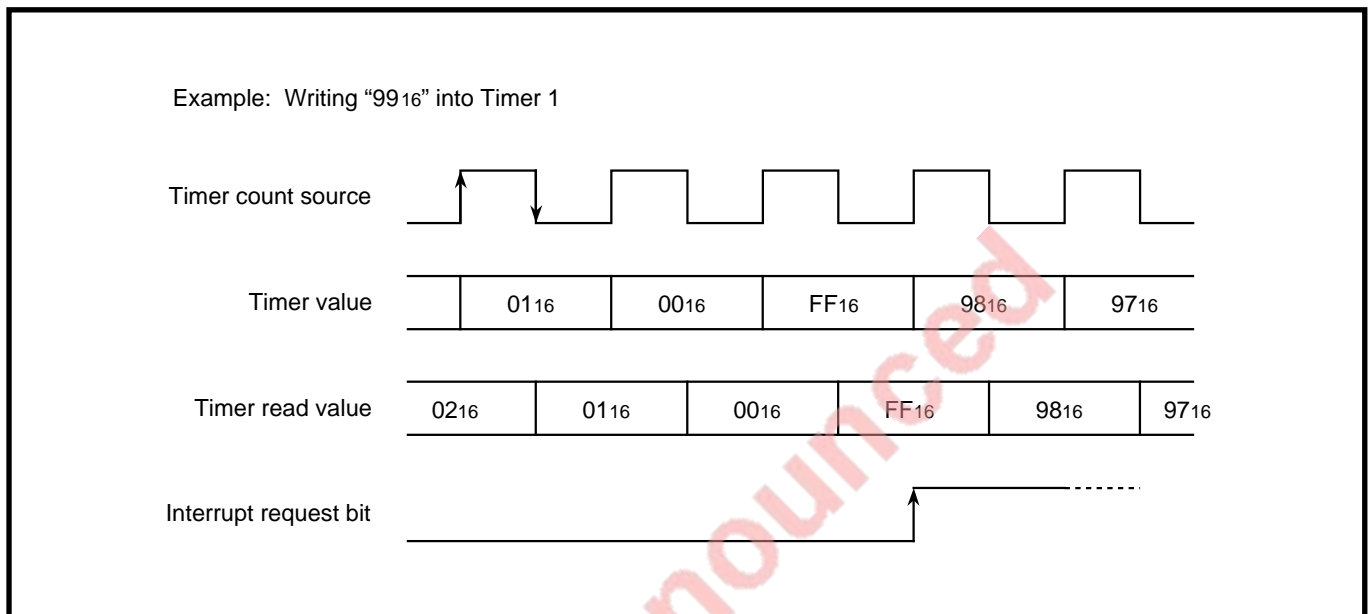

Fig. 1.12.10 Relation between timer value change timing and read value change timing
- (1) The contents of the Timer 12 mode register (T12M: Address 00F8₁₆) and the Timer 34 mode register (T34M: Address 00F9₁₆) become "00₁₆" at reset and each timer performs a count operation.
- (2) Figure 1.12.10 shows the relation between Timer value change timing and read value change timing. The Timer value changes at the rise of the count source, while the read value changes at the fall of the count source. Accordingly, the read value may be larger than the real timer value by "1."